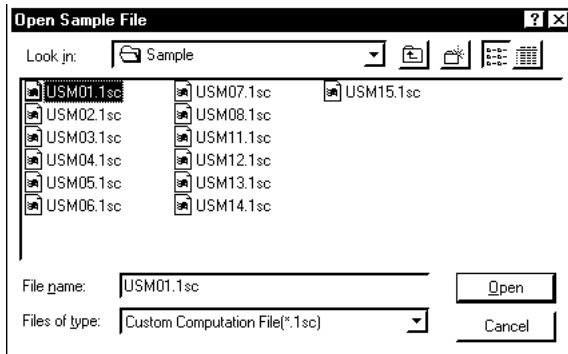

Figure 4.1.5 [Open Sample File] Dialog Box
- ③ If you are configuring a custom computation using a sample file, choose <Open Sample File>. Click the <Open Sample File> option button, and then the <OK> button. The [Open Sample File] dialog box (Figure 4.1.5) appears.